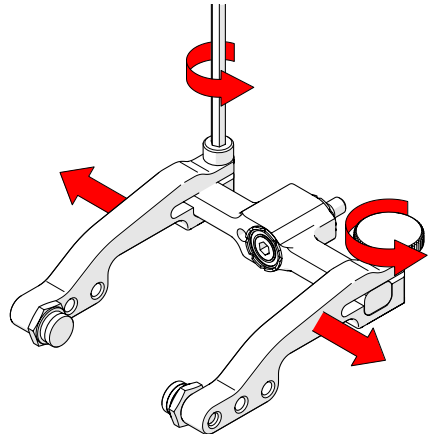

Fig. 163 - Remove arms
2. Loosen the probe holder arm adjustment knob and arm clamp screw. Slide the arms from the yoke (Fig. 163).